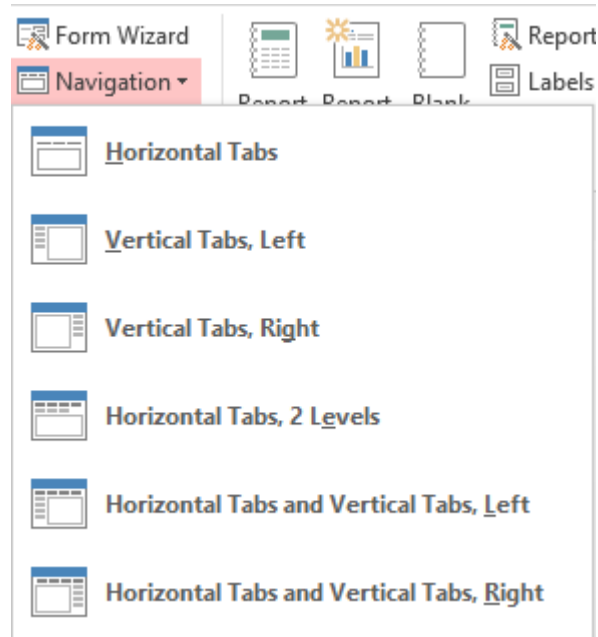

Figure 14: Navigation Templates in the **Create → Navigation** menu
1. **View Navigation Form Templates:** Click **Create** → **Navigation** in the Forms group to see the prebuilt navigation form templates (Figure 14). Access provides navigation forms with horizontal tabs, vertical tabs (left or right), multiple-level horizontal tabs, and mixed horizontal and vertical tabs.